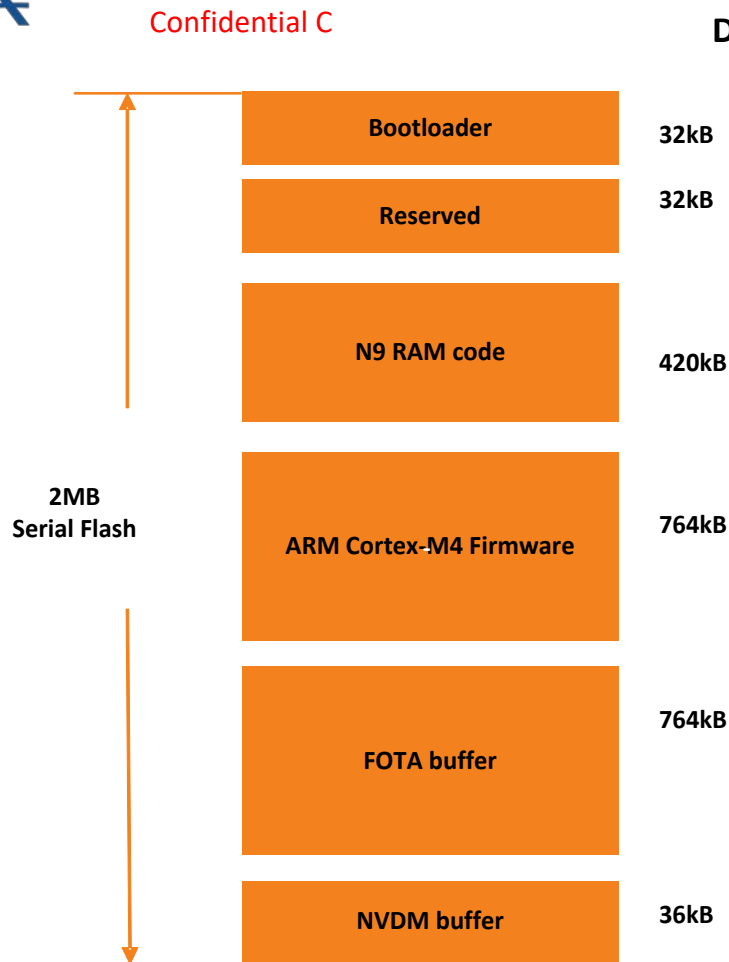

Figure 3-1. The load view of the 2MB flash memory layout
MT7687F has 2MB internal serial flash memory. The load view on the flash memory of the HDK is shown in Figure 3-1.
- Non-Volatile Data Management (NVDM) buffer. There are two blocks reserved for the NVDM buffer management. The first NVDM buffer after the Bootloader (see Figure 3-1) is not configurable, but the second NVDM buffer is configurable, Refer to Section 3.1.4 for more details.
NVDM buffer	The first NVDM buffer located after the Bootloader is not configurable, no need to modify. The second NVDM buffer starting address and size are configurable (see Figure 3-1).